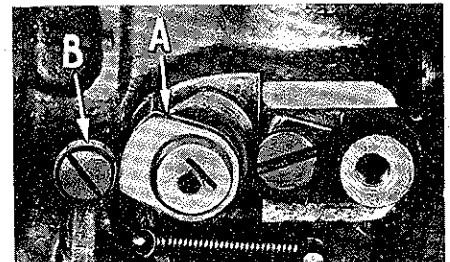

Fig. 16
To accomplish this setting turn handwheel in operating direction until needle is on the down stroke on the left side and the point of needle is approximately 1/32 inch from the center of lining plunger. Now, loosen screws in lining plunger cam (A, Fig. 16) and rotate cam in counterclockwise direction until follower roller (B) is just leaving high lobe. (Examine contact surface of cam and note high lobe; it appears as a raised flat about 1/16 inch long). Retighten screws in the cam.